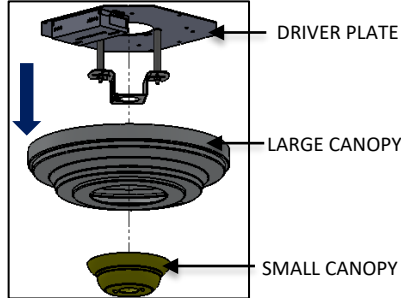

FIG. 7 – CANOPY DISASSEMBLY
1. Turn off Power. Separate the CANOPY from the LARGE CANOPY by twisting the CANOPY to unlock it from the MOUNTING BRACKET as shown in FIG. 7.